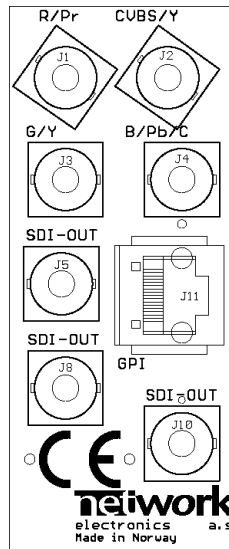

Figure 2 - ADC-SDI-CC-C1 connector module.
3. Attach Analogue input (CVBS, S-Video, RGB+sync or YPbPr) and SDI-output to the backplane module (see *Figure 2* on page 7).
Attach Analogue input (CVBS, S-Video, RGB+sync or YPbPr) and SDI-output to the backplane module (see *Figure 2* on page 7).
The ADC-SDI-CC has a dedicated connector module: ADC-SDI-CC-C1. This module is mounted at the rear of the sub-rack. The module is shown in Figure 2 .